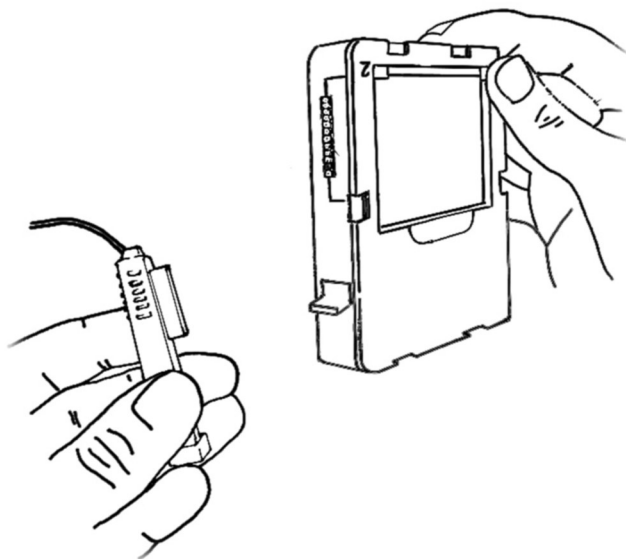

Figure 11.4: Connecting the lead adapter to the eCLS. Port 2 (electrodes 13–24) is shown here. Port 1 (electrodes 1–12) is on the opposite side of the eCLS.
1. Line up the end of the lead adapter plug with the socket on the eCLS port to ensure the connector pins do not get bent (Figure 11.4). Push the lead adapter plug into the eCLS until it clips into place.